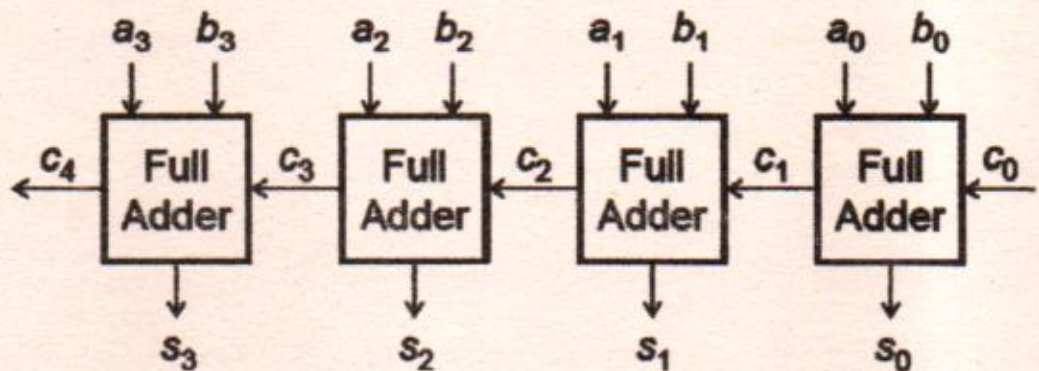

Figure 3
- d) Based on the 4-bit full adder shown in Figure 3, write the complete Verilog code to instantiate the corresponding module. (6 marks)